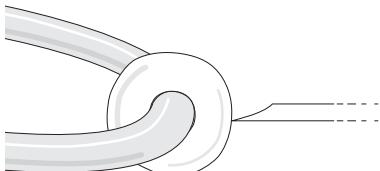

Fig. 22—Filament expands and contacts the tip
4. Press the RUN button. The filament expands, touching the tip of the beveled glass. As glass the bead becomes molten and the beveled tip makes contact with the bead, quickly pull the tip away and simultaneously release the RUN button to turn off the heat. (Fig. 22).